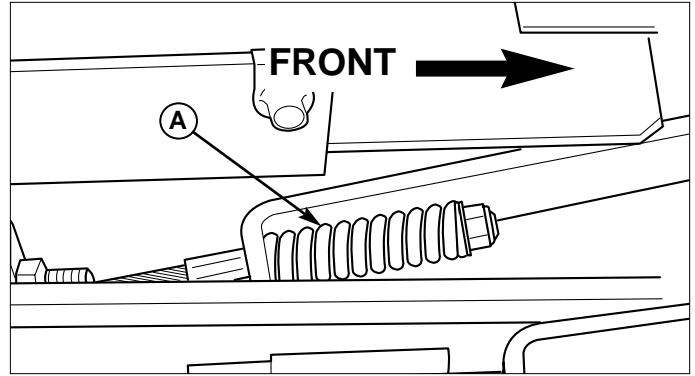

Figure 27. Parking Brake Adjustment
3. Locate the upper brake spring (A, Figure 27).